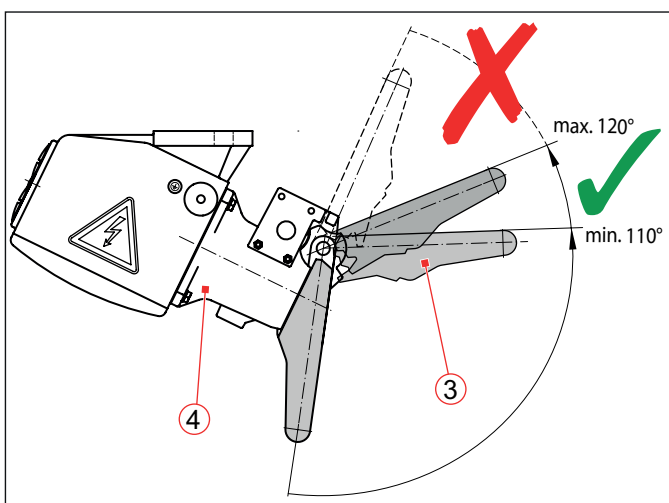

Fig. 34: Open the receptacle lid (3) of the coupling receptacle (4): Opening angle at least 110°, at most 120°
- ▶ Open the receptacle lid by an angle of at least 110° but not more than 120° (see **Fig. 34**). An overstretching of the receptacle lid may shorten the operational life span of the torsion spring and damage the hinge mechanism.